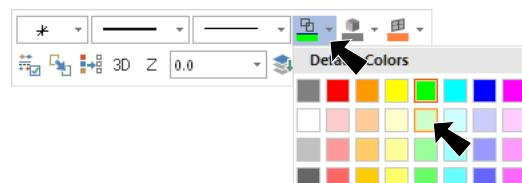

Fig. 40
- Step 1. Sketch switch light green. Right click in the graphics window and on the Mini Toolbar click Wireframe Color  drop down arrow and select light green, Fig. 40.